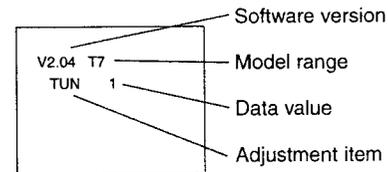

fig. 2.1B Options adjustment display
- Press the * button to toggle between the OPTION and VCJ adjustment displays (figs. 2.1B and 2.1C):